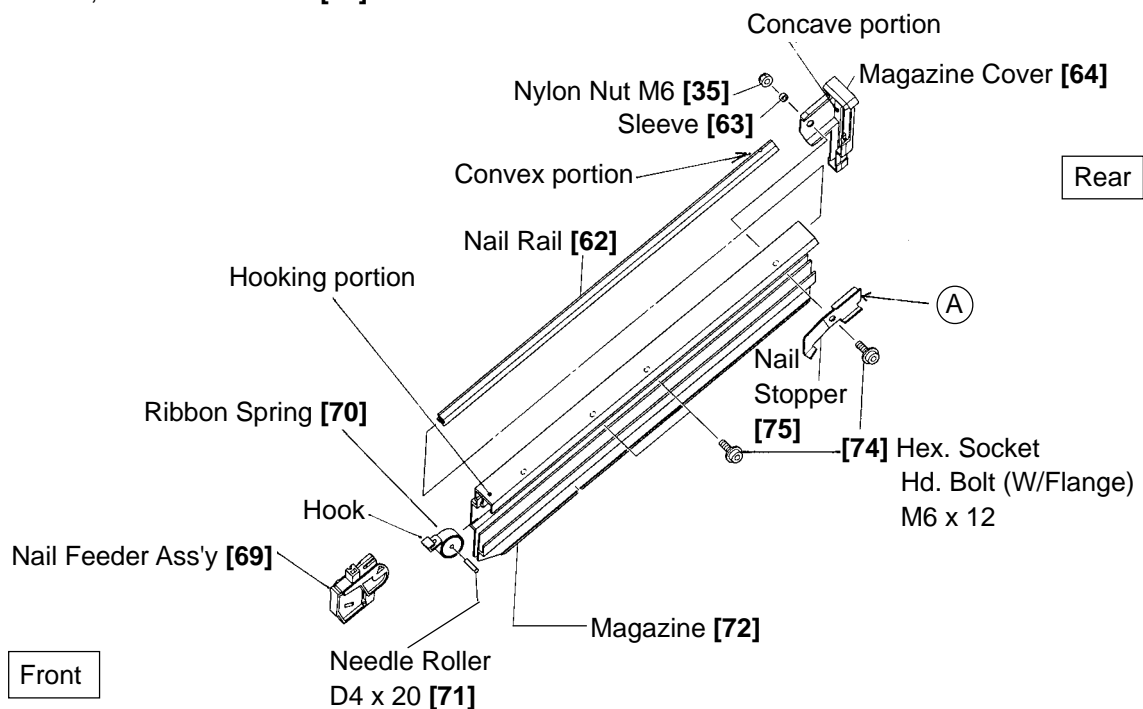

Fig. 19
(2) Magazine [72], Nail Feeder Ass'y [69] and the related parts (See Fig. 19.)